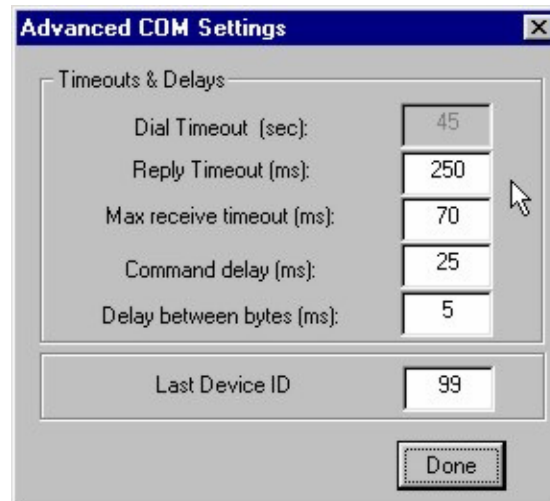

Figure 11: Advanced COM Port Settings Window
Selecting modem on the main screen automatically enables the text window next to it, where you enter the telephone number of the modem you are trying to communicate with. You can also change the settings for modem communication by clicking on the ‘Advanced’ button in the top left corner of the main screen. The Advanced COM Settings window will display (see Figure 11: *Advanced COM Port Settings Window* on page 18).
The functions of each of the fields in Figure 11: are explained below:
1. Enter 99 in the “Last Device ID” field in Figure 11:
1. Enter the highest ID number in the “Last Device ID” field in Figure 11: